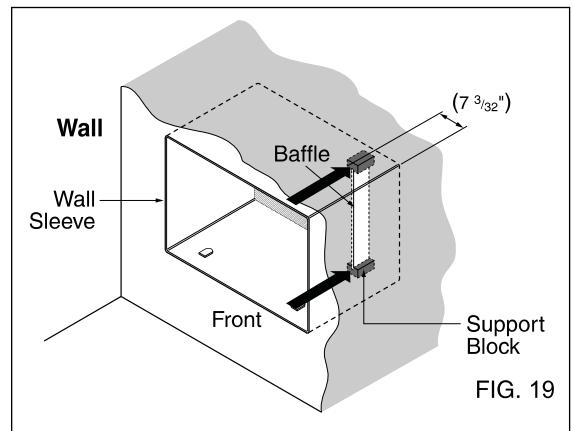

FIG. 19
- 6** Remove the backing from the support blocks and attach them to the inside of the wall sleeve as shown FIG 19. Slide the baffle into slots of the support blocks